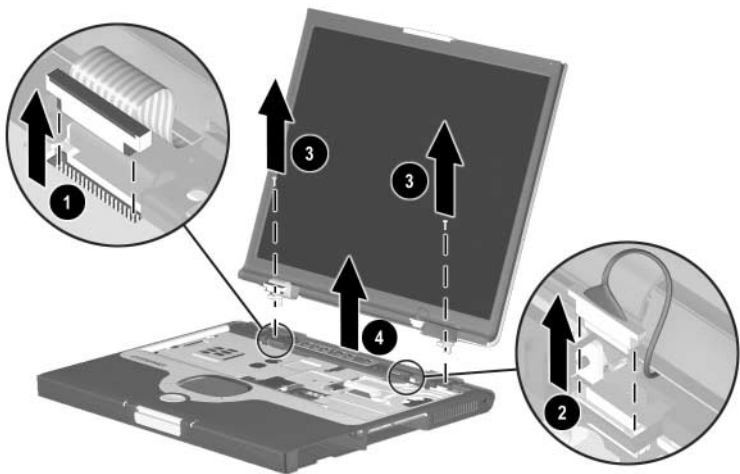

Figure 5-19. Removing the Display
6. Disconnect the display video **❶** and display inverter **❷** cables from the system board (Figure 5-19).
7. Remove the two PM2.0 \times 10.0 screws **❸** that secure the display hinges to the base enclosure.
8. Lift the display straight up **❹** and remove it from the base enclosure.